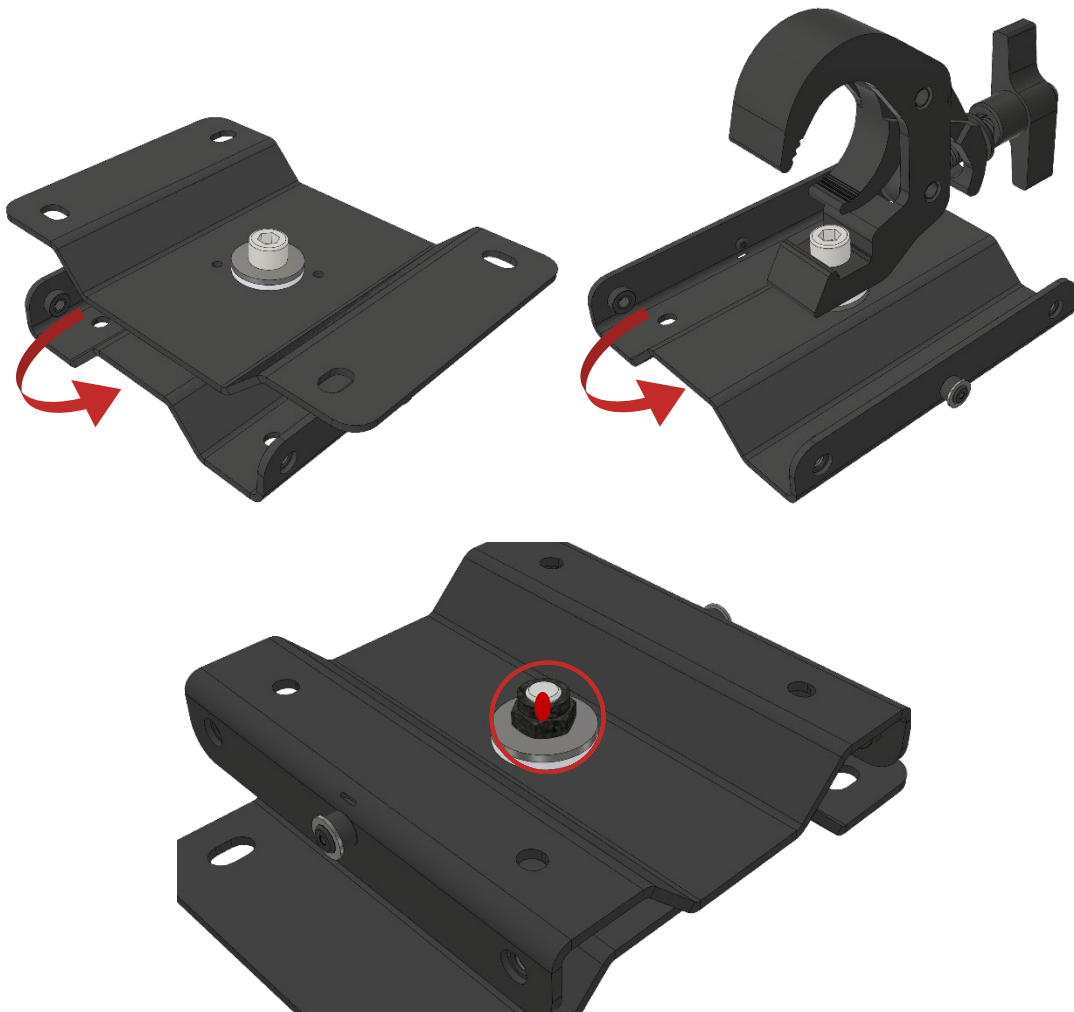

Figure 57 Sealed wax on the ECO-CB and ECO-CLP50 nuts
- On the the screws + nuts of the ECO-CB and ECO-CLP50, shown in the picture below (Figure 57) red sealing wax has been applied to ensure that the nuts remain in the same position and to prevent any attempts to tighten or loosen them.
Except for the three nuts described on the previous section (see Figure 57), please control, with corresponding tool, that all the other screws are properly tightened.